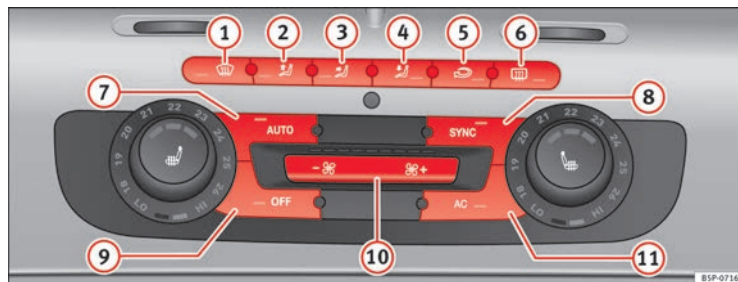

Fig. 133 On the dash panel: 2C Climatronic controls
- Turn the temperature control knobs ⇒ Fig. 133 to adjust the temperature on the left hand side or the right hand side respectively. ▶
- Press the **AUTO** ⇒ Fig. 133 button. “AUTO High” is shown on the radio display (high fan speed).
- Press the **AUTO** button again ⇒ Fig. 133. “AUTO Low” is shown on the radio display (low fan speed).